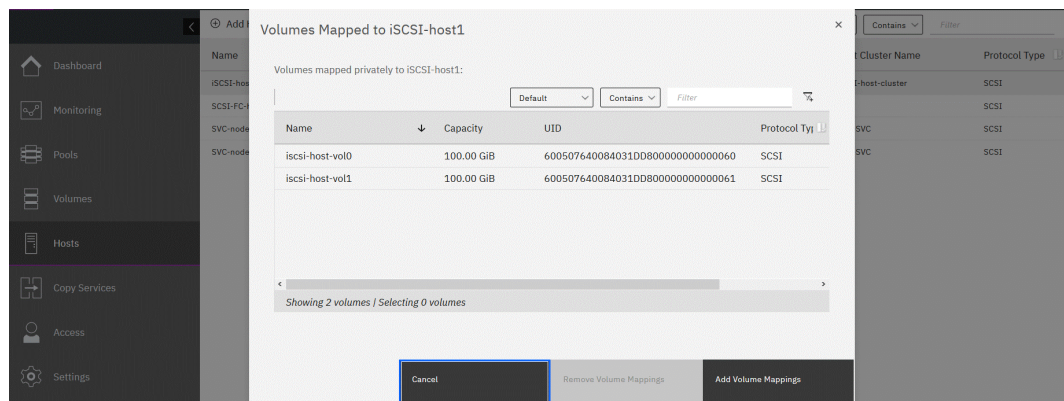
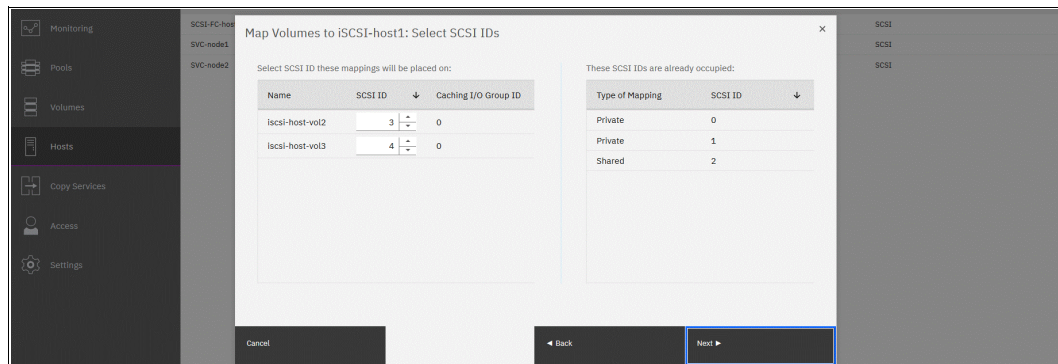

Figure 7-38 Modifying the host volume mappings
Figure 7-41 Choosing SCSI IDs manually
2. A window that shows a list of existing private volume mappings is shown (see Figure 7-38).
- By default, the storage system automatically assigns the next available SCSI ID for new mappings. However, you also can click **Self Assign** to manually assign SCSI logical unit number (LUN) IDs, as shown in Figure 7-41. Note that in Figure 7-38 on page 440 only two existing mappings were shown for this host, but Figure 7-41 shows three mappings because the third mapping is a shared host cluster mapping, which was not shown in previous views.